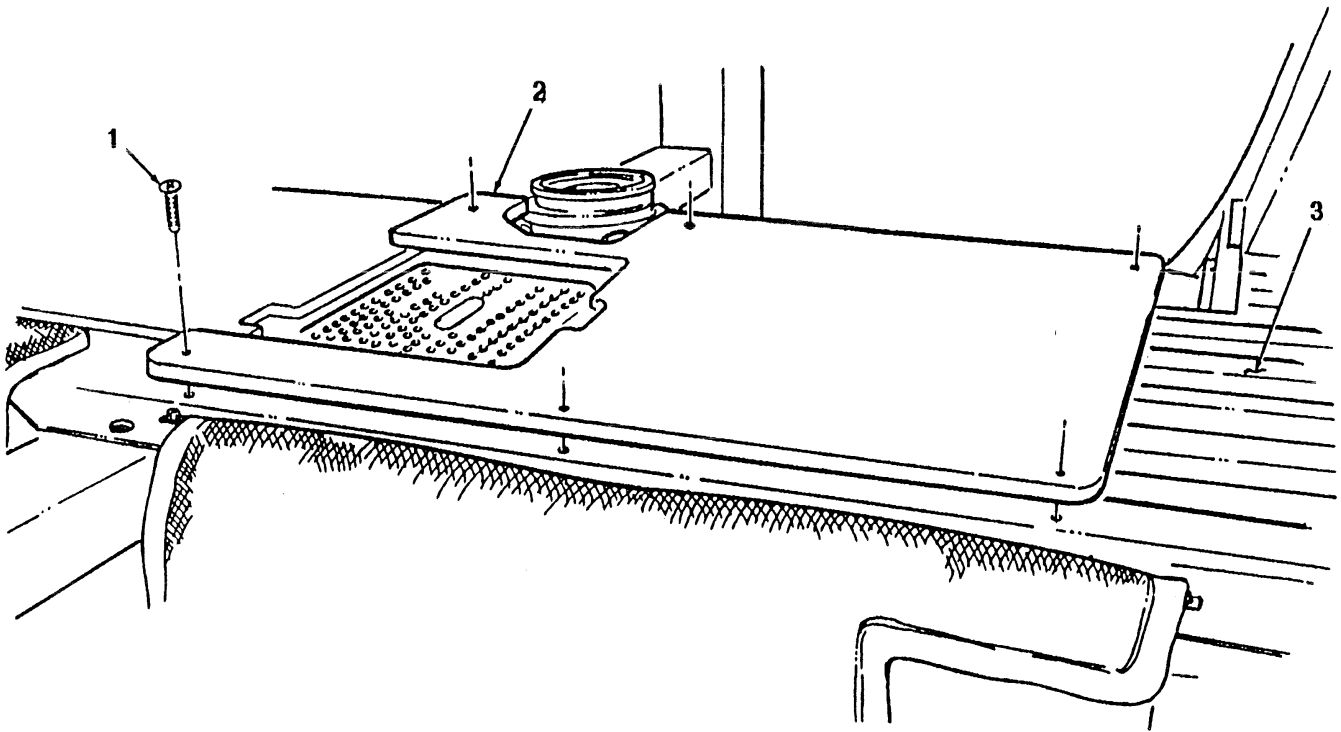

FIGURE 4-2
1. Remove six screws (1) securing insulation board (2) to tunnel floor (3). (see figure 4-2)